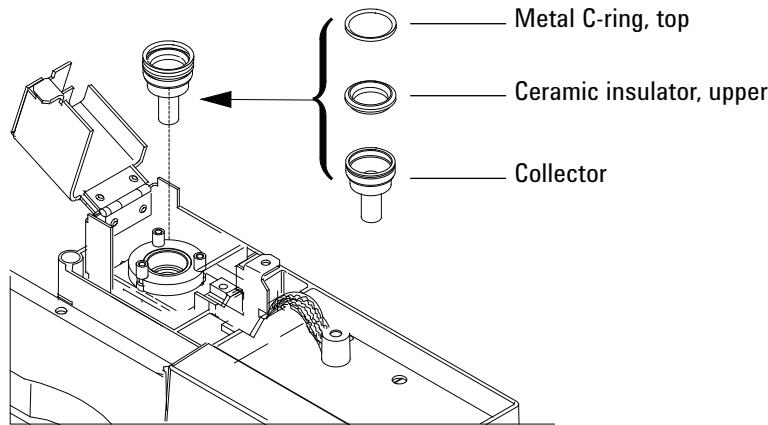

Figure 5 NPD collector, upper insulator, and metal C-ring
- 20 Install the bottom metal C-ring, the lower ceramic insulator, and the top metal C-ring. See Figure 5.